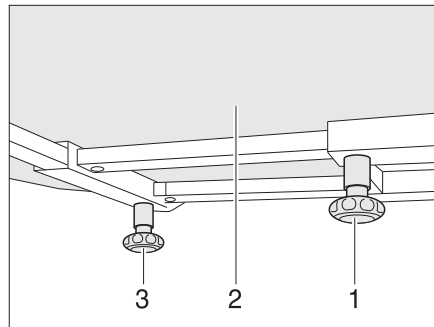

Fig. 96 Fixed table
- Loosen knurled screw (Fig. 96,1).
- Move table-top (Fig. 96,2) to the desired position.
- Loosen knurled screw (Fig. 96,3).